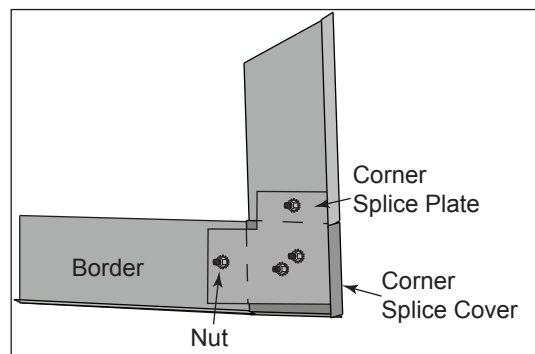

Figure 19: Border Corner Splice Detail
24. Locate the corner splice plates, splice covers, and nuts for each corner. Refer to **Figure 19**.